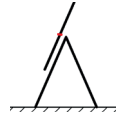

Figure 1 — Combination ladder in standing ladder position with extending ladder at the top
- Never slide out the upper ladder of a 3 section ladder in the A-position with the red rung (or the 4th rung from the top) further than the hinge point (figure 1).
- Never climb a 3-section ladder in the A-position further than the hinge point (figure 1).